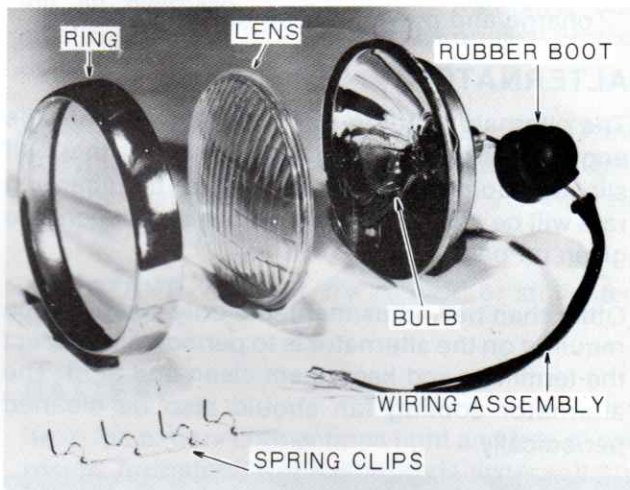

Figure 54 — Headlamp Assembly — Disassembled
7. Remove ring from assembly taking care not to drop the glass lens, Figure 54.